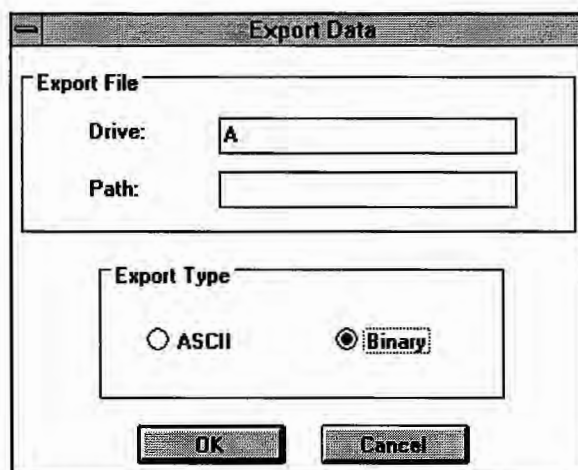

Figure 9-7 Export Data Dialog Box
3. Click on the Export button below the catalog, or the Export button in the tool bar. The following dialog box appears (Fig. 9-7).